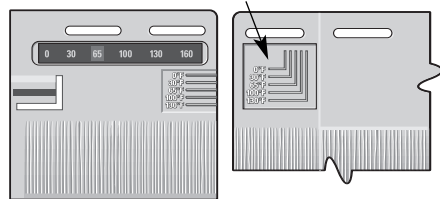

FIGURE 1
Each panel has a **PanelThermometer™** that displays panel temperature and indicator lines that serve as guides for proper spacing between the panels. The PanelThermometer is located on the upper right-hand corner of the panel; the indicator lines are on the upper left-hand corner (figure 1).
4) Install the next panel by positioning it below the starter strip and next to the first panel. Push in and up to lock the panel into the starter strip and the side tabs of the first panel, as shown in figure 5. Space the second panel according to the panel temperature at the corresponding temperature indicator lines (figure 1).